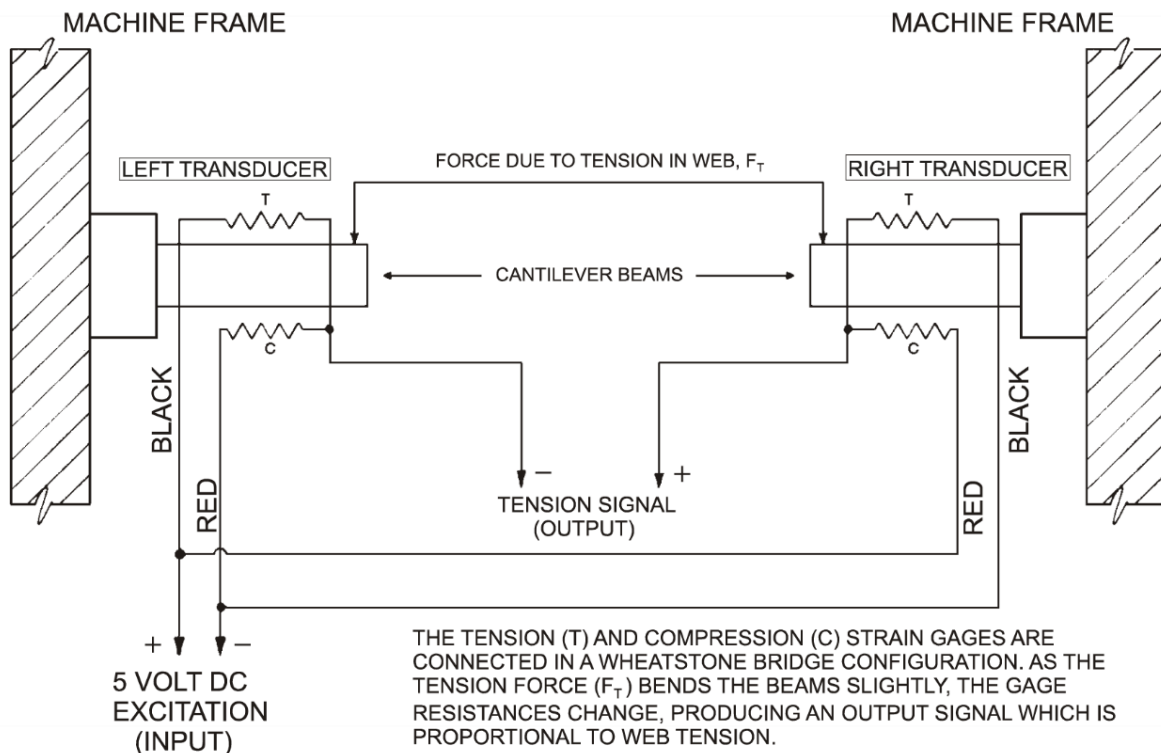

Figure 3 - STRAIN GAUGE CONNECTIONS
1.2 ELECTRICAL OPERATION (SEE FIGURE 3)